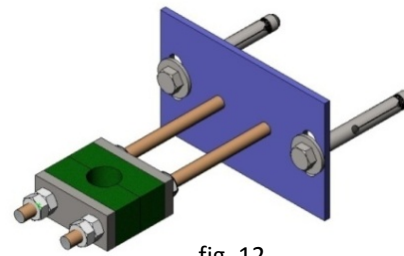

fig. 12
- A stem support-guide is recommended (fig. 12) every 1.5 m.